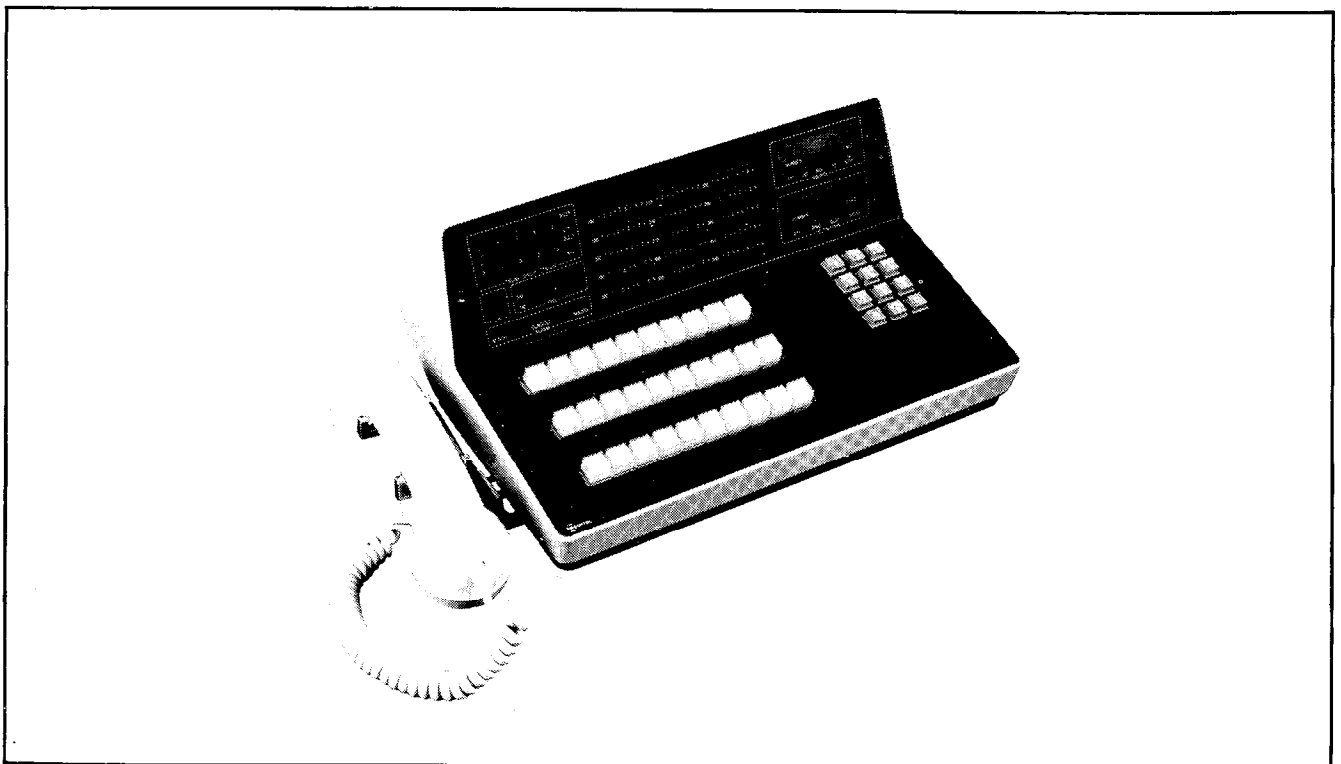

Fig. 4-3 Attendant Console
4.06 The layout of the SX-100/200 attendant console is shown in Fig. 4-3. The three rows of